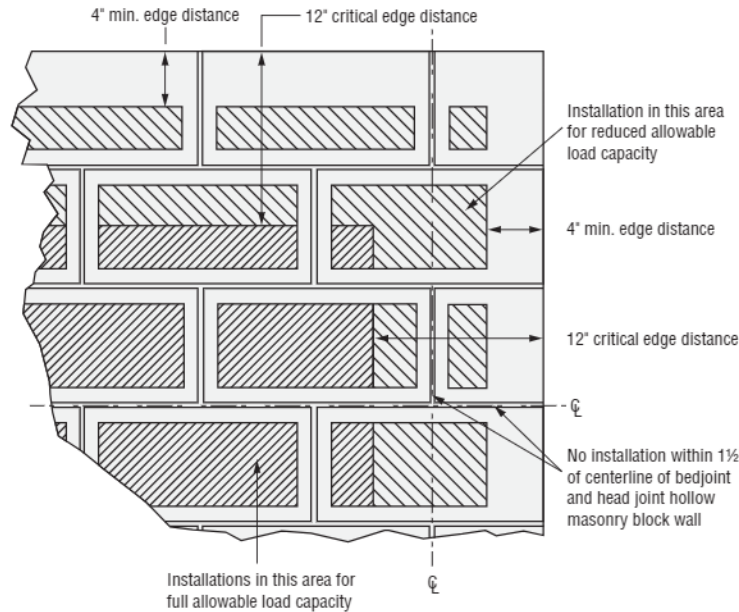

Figure 2. Stainless-Steel Titen HD Screw Anchor Installed in the Face of Hollow CMU Wall Construction
Anchor Installed in Face Shell (See Figure 2)
- Anchors must be installed a minimum of 1 1/2" from vertical head joints and T-joints. Refer to Figure 2 for permitted and prohibited anchor installation locations.